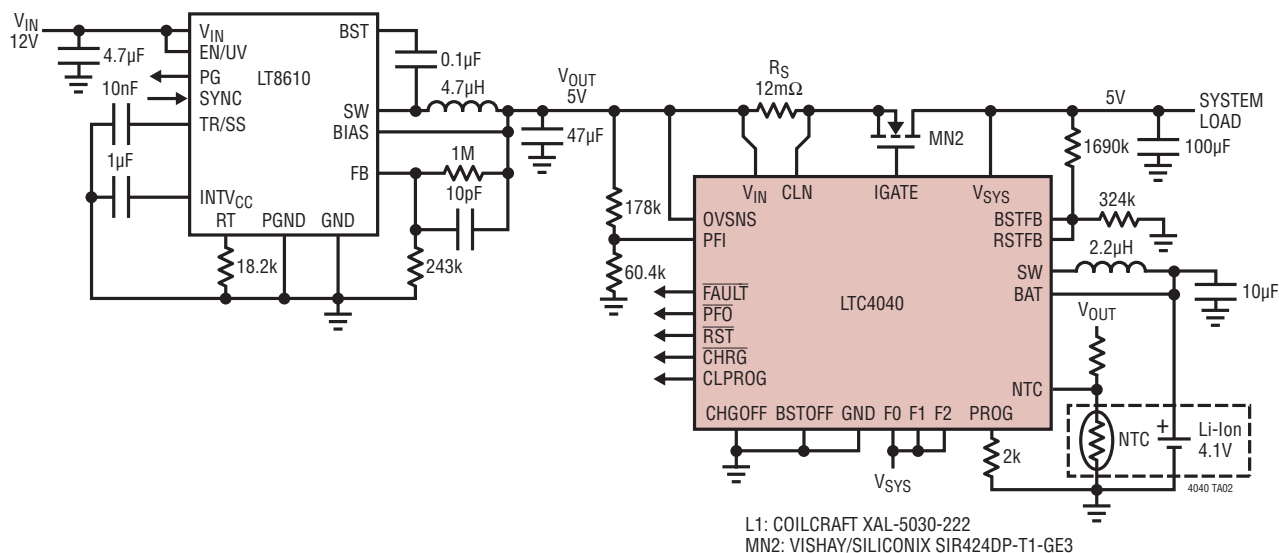

**Figure 4. High Frequency Ground Currents Follow Their Incident Path. Slices in the Ground Plane Cause High Voltage and Increased EMI**
2. To minimize parasitic inductance, the ground plane should be as close as possible to the top plane of the PC board (Layer 2). High frequency currents in the hot loop tend to flow along a mirror path on the ground plane which is directly beneath the incident path on the top plane of the board as illustrated in Figure 4. If there are slits or cuts or drill-holes in this mirror path on the ground plane due to other traces, the current will be forced to go around the slits. When high frequency currents are not allowed to flow back through their natural least-area path, excessive voltage will